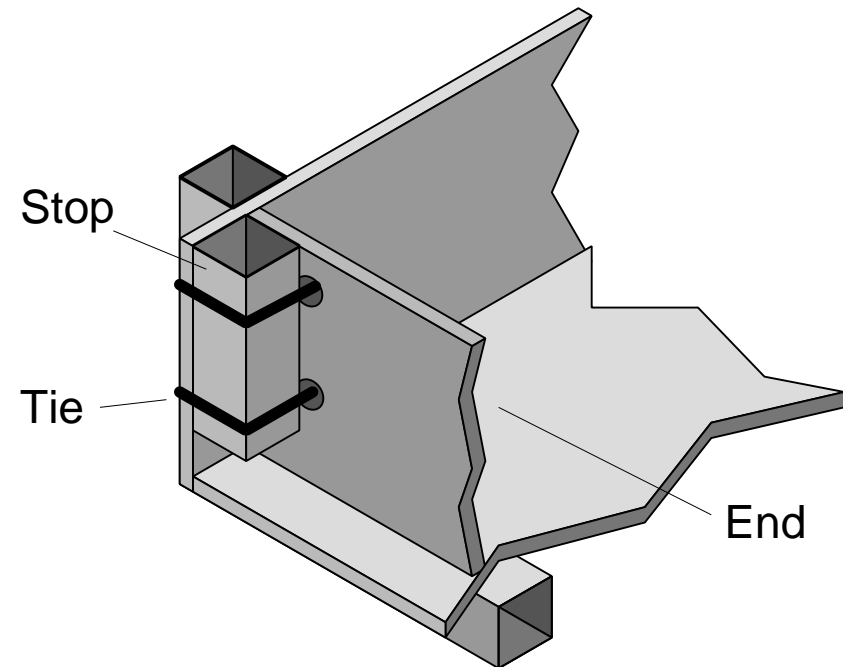

Figure 9: method of fixing ends with rubber or rope
7) If you want to make it so that the ends of the load tray can be removed easily you can do so in the way we have shown in Figure 9. Here a piece of the box section steel is fixed to the side planks by clench bars or bolts and stops the end being able to fall out. It is better if box does not touch the bottom planks because then it is easier to clean the corners. The end can be tied to these end stops with